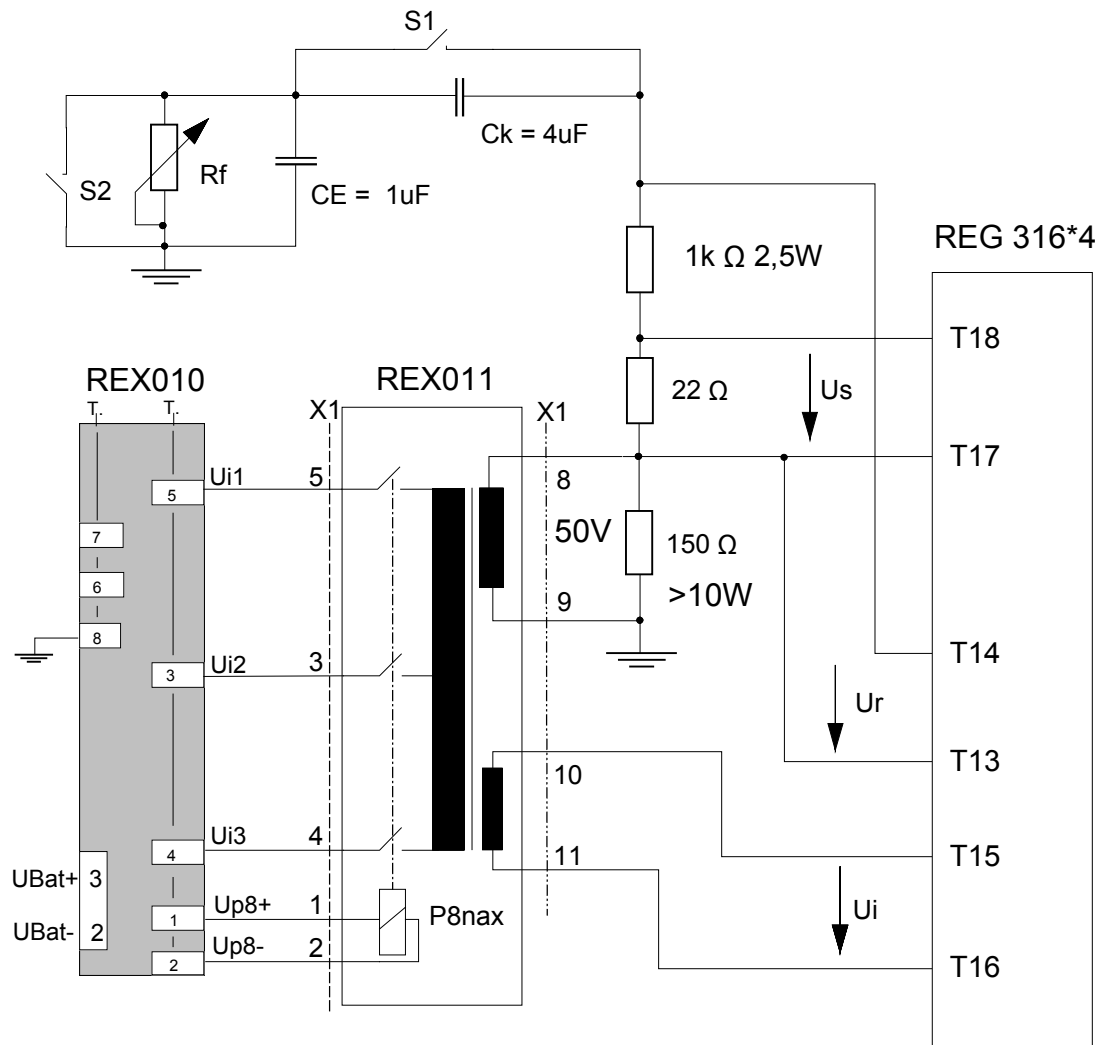
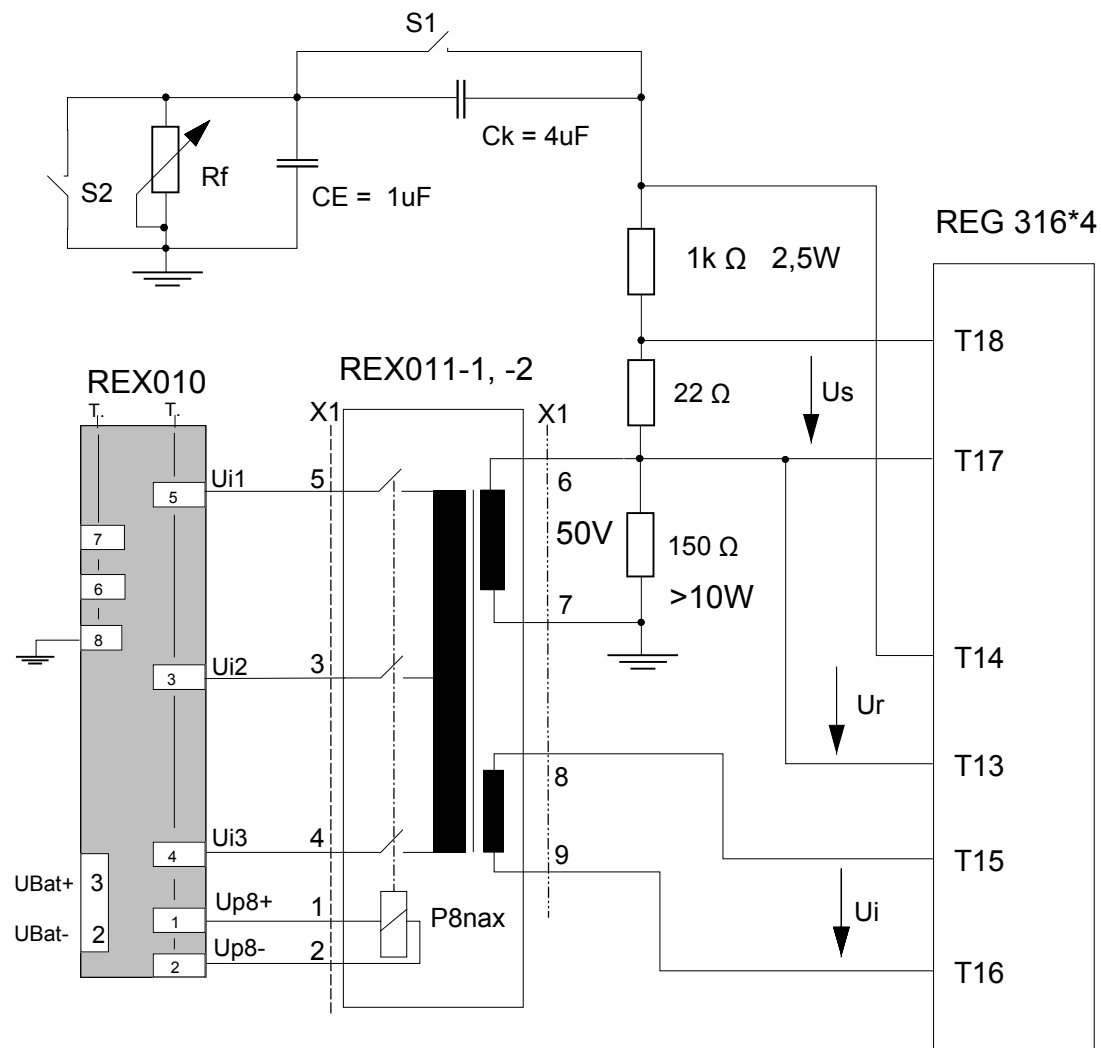

Fig. 2.9 Wiring diagram for testing without the generator using REX 011
Fig. 2.10 Wiring diagram for testing without the generator using REX 011-1, -2
- Fig. 2.9 Wiring diagram for testing without the generator using REX 011
- Fig. 2.10 Wiring diagram for testing without the generator using REX 011-1, -2
In order to test the operation of the injection unit Type REX 010 plus injection transformer block Type REX 011 or REX 011-1/-2 and the Stator-EFP and Rotor-EFP protection functions without them being connected to the protected unit, set up the test circuit shown in Fig. 2.9 or Fig. 2.10.